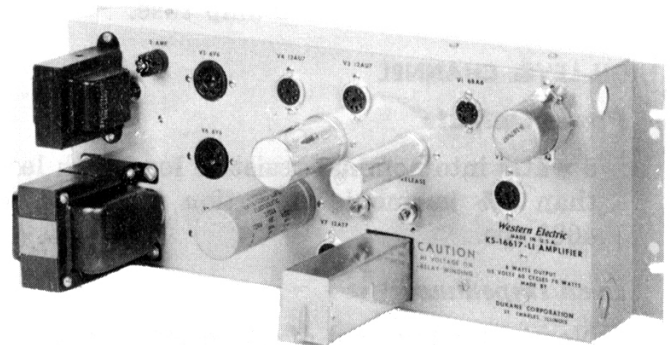
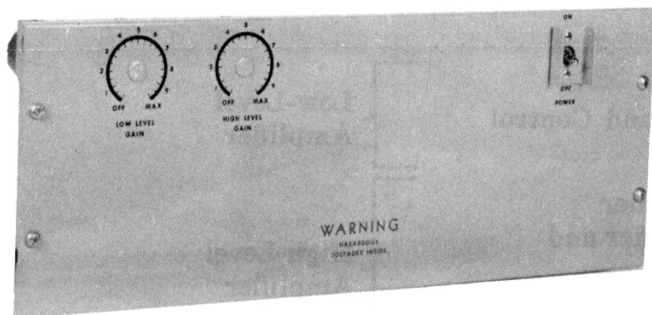

Fig. 2 — Rear View
Fig. 1 — Front View With Cover Mat Assembled
1.03 Fig. 1 shows a photograph of the front view of the amplifier with the cover mat assembled. Fig. 2 shows a photograph of the rear view of the amplifier without the electron tubes. The tubes are not furnished with the amplifier and should be ordered separately.